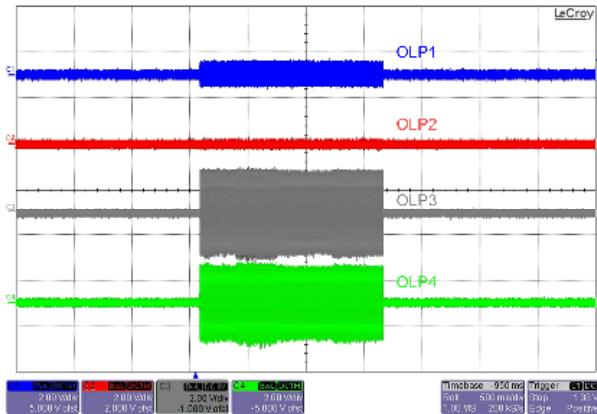

Figure 52. Open-Lamp Protection in Striking Mode
**Open-Lamp Protection:** If the minimum of the rectified OLP voltages ( $V_{OLP}^{\min}$ ) is less than 0.7V during initial operation, the IC operates in striking mode for a time predetermined by the TIMER pin capacitor and an internal current source, 2 $\mu$ A, as shown in Figure 52.